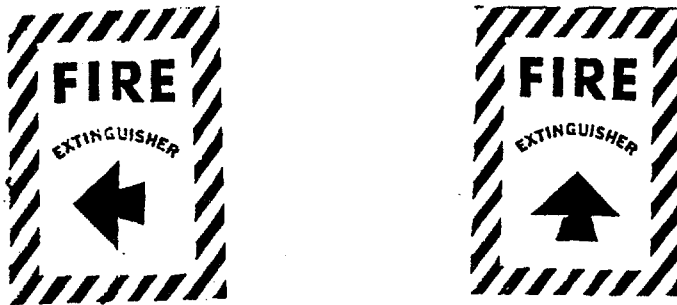

Figure 2-24. Fire Extinguisher Decals
- g. Fire Extinguishers. Figure 2-24 identifies decals for the fire extinguishers.